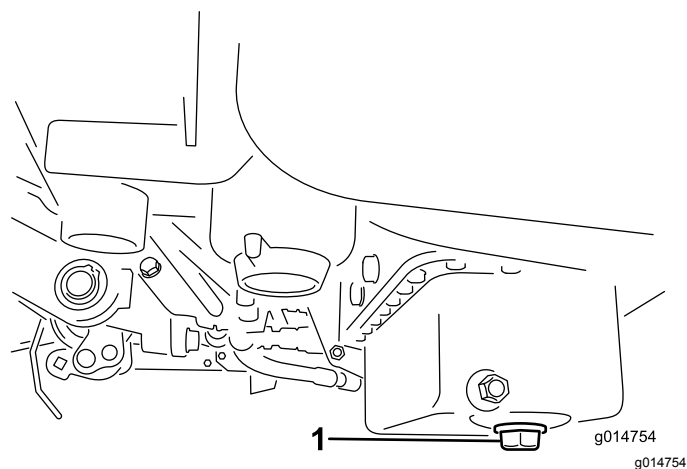

Figure 28
1. Remove the drain plug and let oil flow into a drain pan. When the oil stops, install the drain plug (Figure 28).